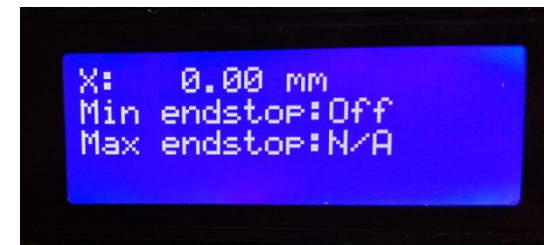

Fig 2: Check end stops state
3. Ensure the motors and the limit switches work normally (*Fig 2*)